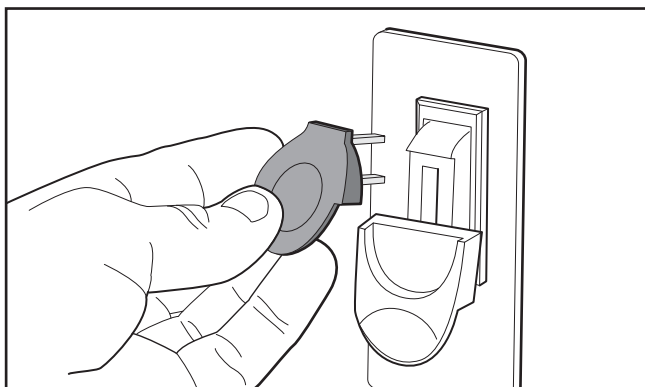

Figure 14. Removing switch key from paddle switch.
4. Remove switch disabling key, as shown in **Figure 14**.